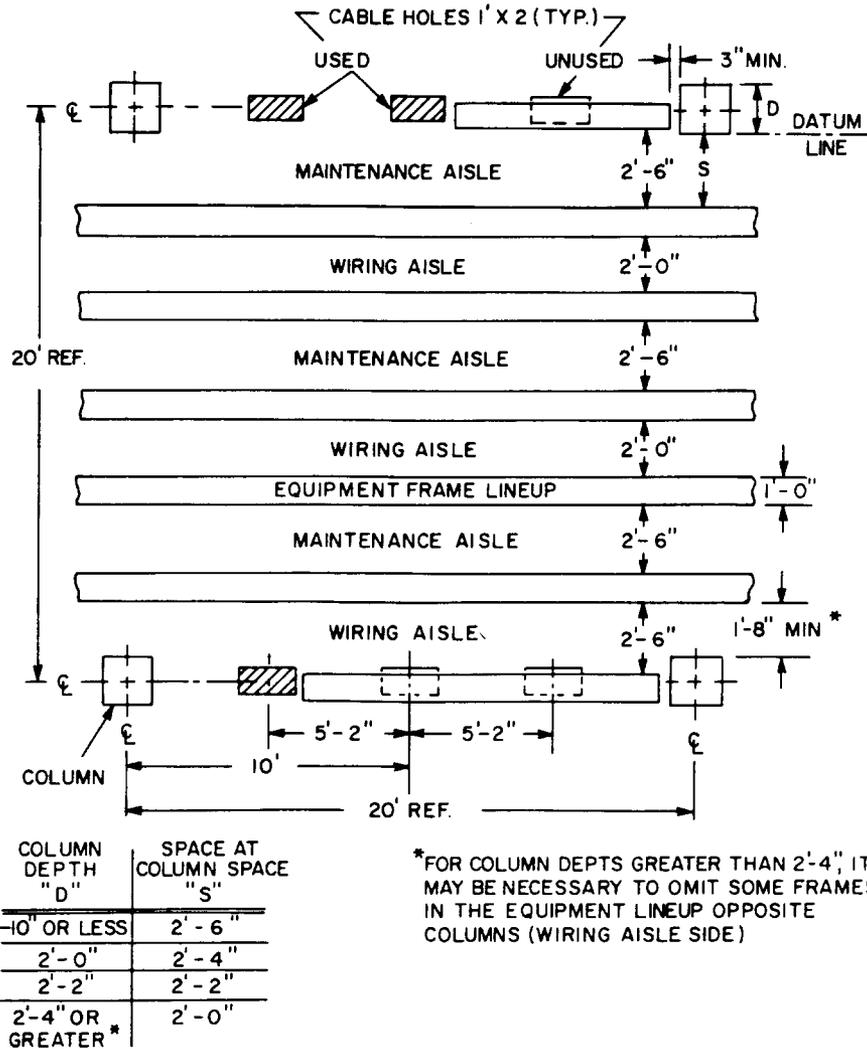

Fig. 1—NEBS Standard Floor Plan for Principal Depth 12-Inch Frame
**2.01** The use of standard aisles for 12-inch and 18-inch frames (Fig. 1 and 2, respectively) establish minimum aisle-spacings after proper consideration of certain pertinent factors. Such factors are those associated with operations and maintenance, installation of frames and cabling, cooling and lighting, floor loading, and cable densities. The NEBS 7-foot frames with cabling in standard floor plan arrangements impose reasonable loads on the 150-psf designed floor. Also, air diffusing into the standard aisles from the 10-foot level permits lower energy air-conditioning systems compared to those needed for equivalent high bay installations.